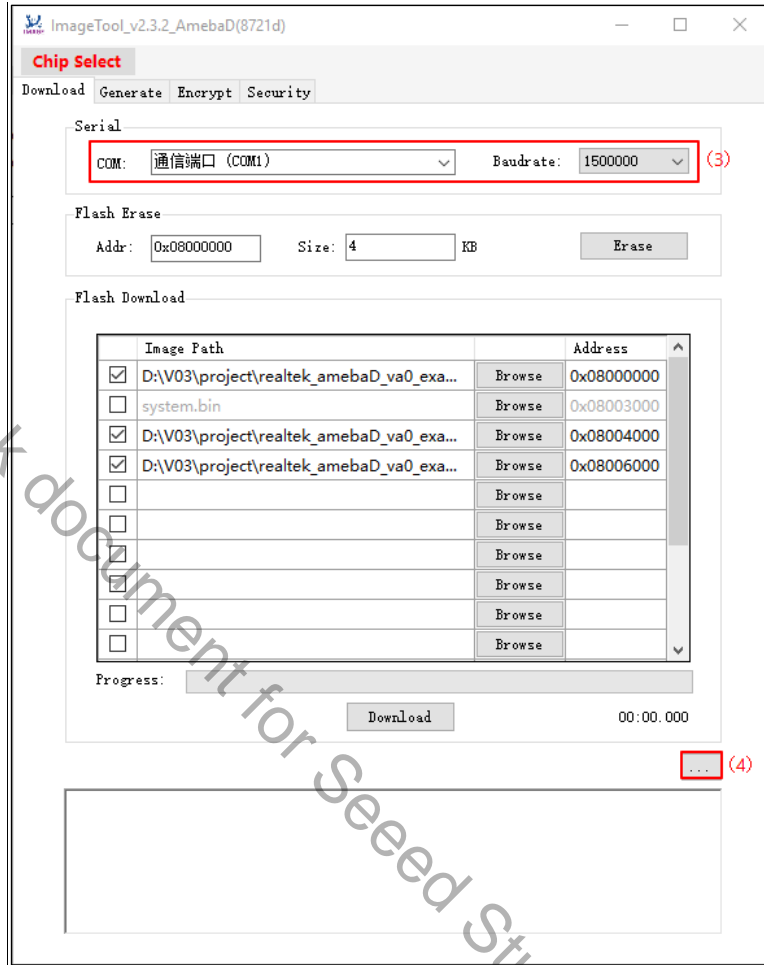
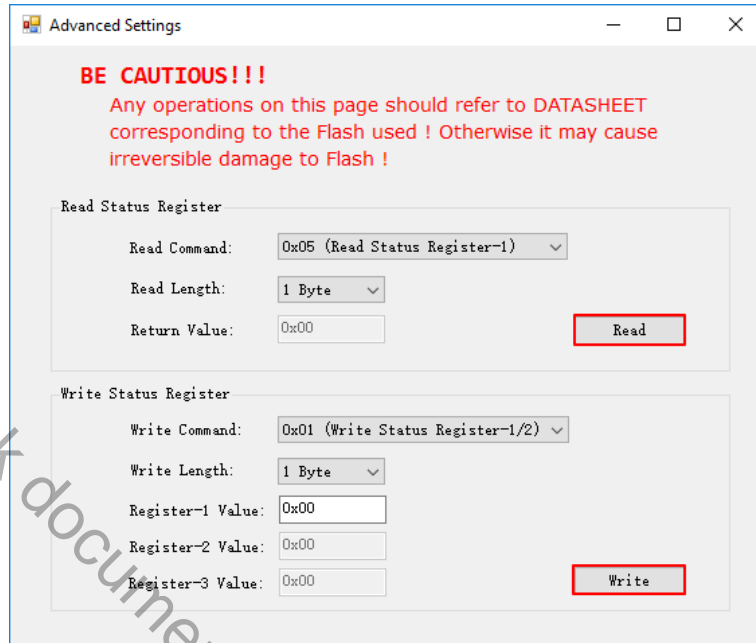

Fig 8-5 'Advanced Settings' window
Fig 8-6 Flash status operation
- (1) Check the Read/Write Status Register Command and Sequence according to the Flash datasheet. Notice that different Flash IC would have different sequence.
- (2) Get Ameba into UART_DOWNLOAD mode as introduced in section 8.3.1.
- (3) Select the corresponding serial port and baud rate.
- (4) Click **Advanced Settings** button in Fig 8-5, and the **Advanced Settings** window shown in Fig 8-6 popups.